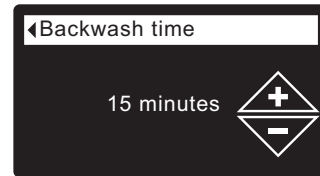

FIG. 76
7. Press the SELECT (O) button to display the desired cycle time screen (See Figures 76 & 77).
- 8a. **Backwash time:** Press the UP (▲) or DOWN (▼) buttons to change the backwash time. Hold the button down to rapidly advance. The backwash time can be set from 1 to 99 minutes* (See Figure 76).